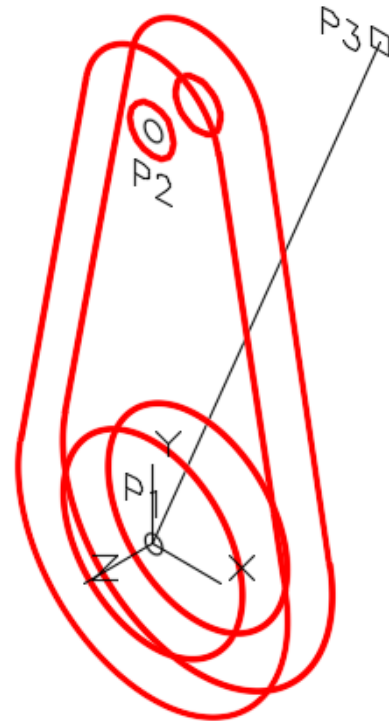

Figure Step 11
Step 11 Change the current view to SE Isometric and enter the ROTATE3D command, as shown below, to rotate the model using the Reference option. (Figure Step 11)